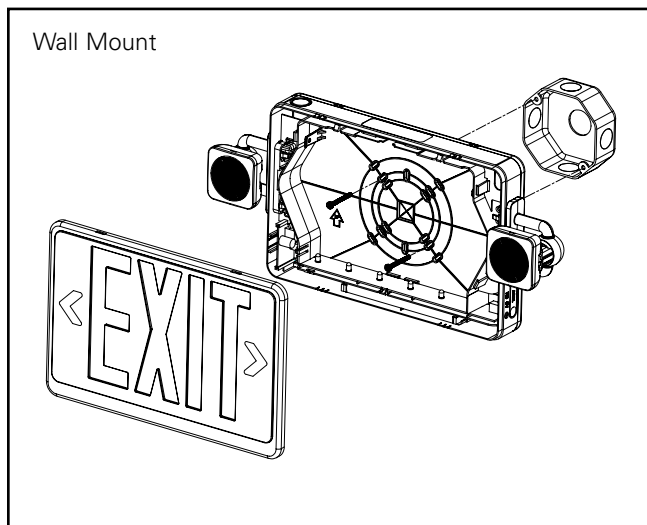

Figure 2
3. Reference Figures 2 through 4 for mounting configuration.